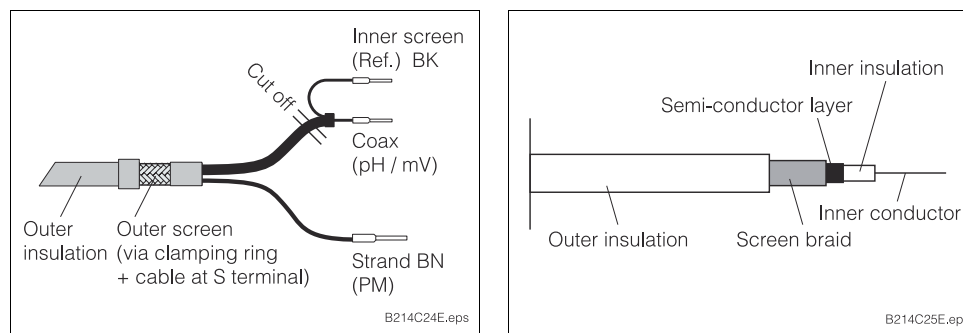

Fig. 4.7: Cutting off the cable end (left) and make-up of inner coaxial cable (right)
1. Cut off terminated end of the inner coaxial cable (see Fig. 4.7).
2. Push cable gland (①) and disc (②) onto coaxial cable, strip outer insulation (13 mm), then screw clamping ring (③) onto insulation.